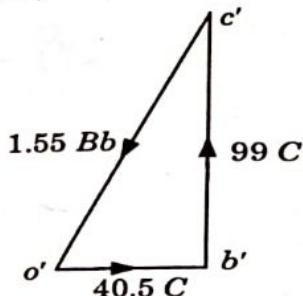

Fig. 4.10.2.
4. Now the couple polygon, to some suitable scale, may be drawn with the data given in table (column 6), [Fig. 4.10.2].